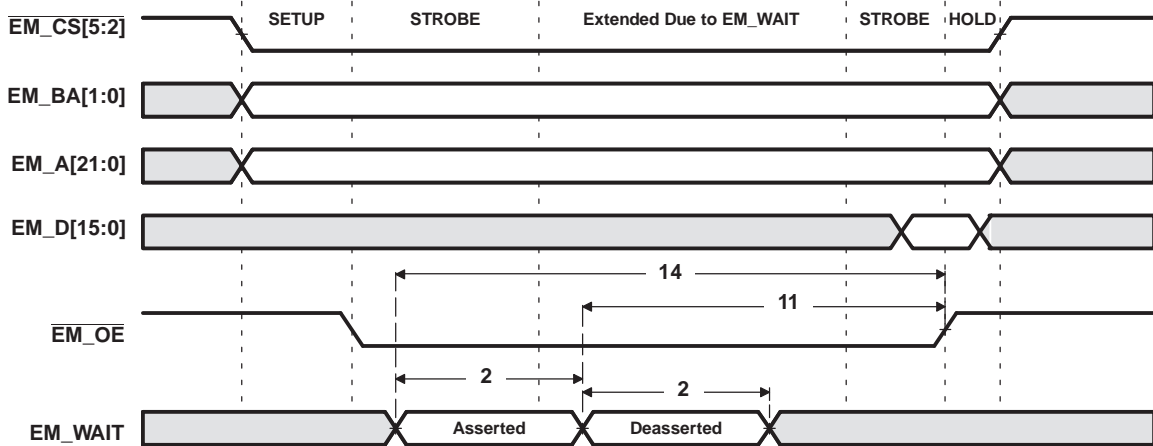
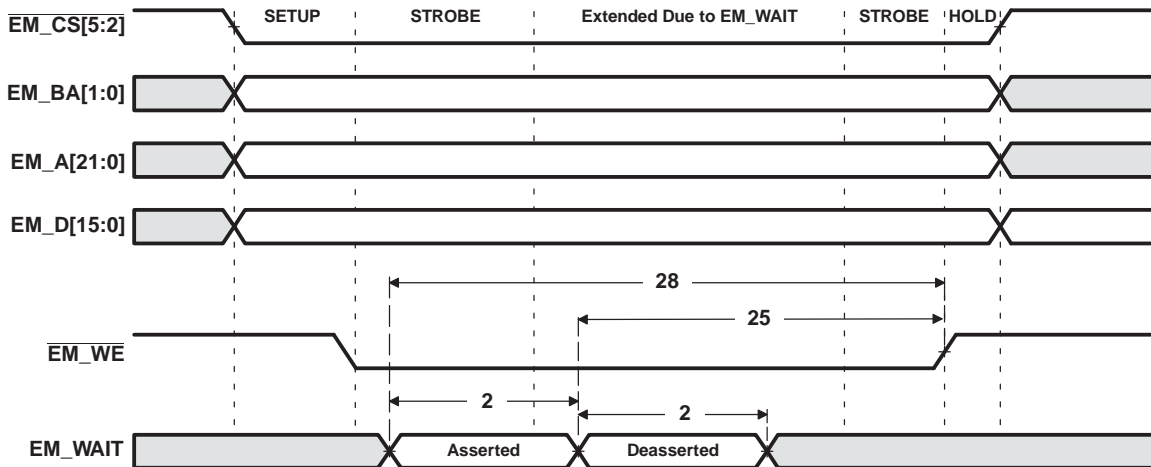

Figure 6-21. EM_WAIT Read Timing Requirements
Figure 6-22. EM_WAIT Write Timing Requirements
- (1) E = SYSCLK5 period in ns for EMIFA. For example, when SYSCLK1 is 540 MHz, use E = 11.11 ns.
(2) Setup before end of STROBE phase (if no extended wait states are inserted) by which EM_WAIT must be asserted to add extended wait states. Figure 6-21 and Figure 6-22 describe EMIF transactions that include extended wait states inserted during the STROBE phase. However, cycles inserted as part of this extended wait period should not be counted; the 4E requirement is to the start of where the HOLD phase would begin if there were no extended wait cycles.